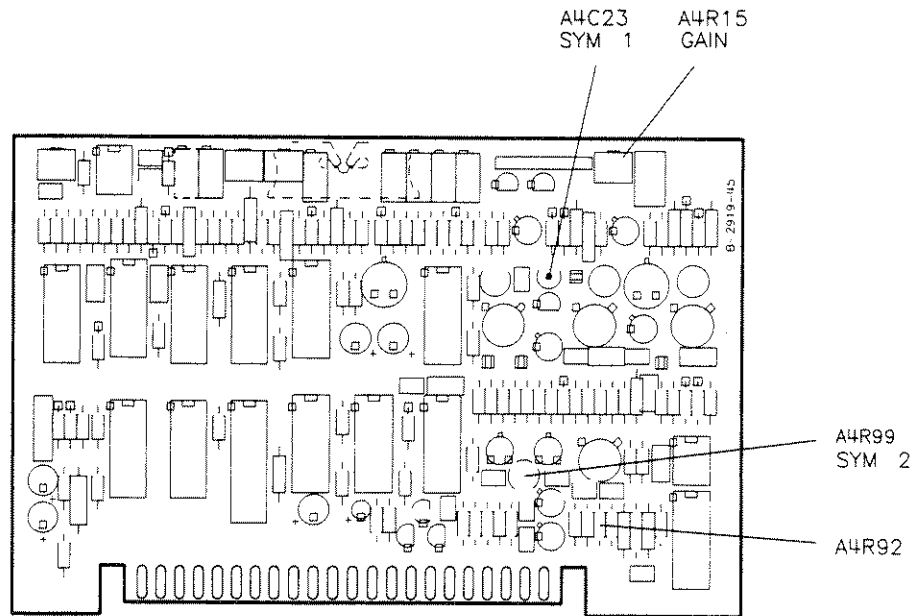
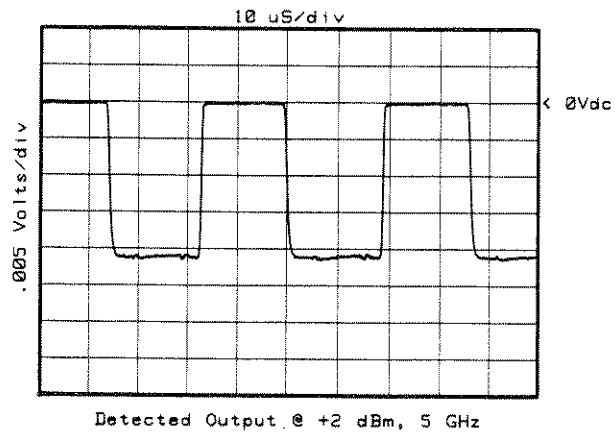

Figure 5-43. Squarewave Symmetry Adjustment Locations
Figure 5-44. Optimum Squarewave
4. Alternately adjust A4C23 (SYM 1) and A4R99 (SYM 2) for the waveform shown in figure 5-44. Adjust for minimum overshoot and ripple during the *on* portion (most negative) of the squarewave. Figure 5-43 shows adjustment locations.
Check that the squarewave resembles that shown in figure 5-44. If not adjust A4C23 and A4R99 for the best squarewave while alternately checking the squarewave at 1 GHz.